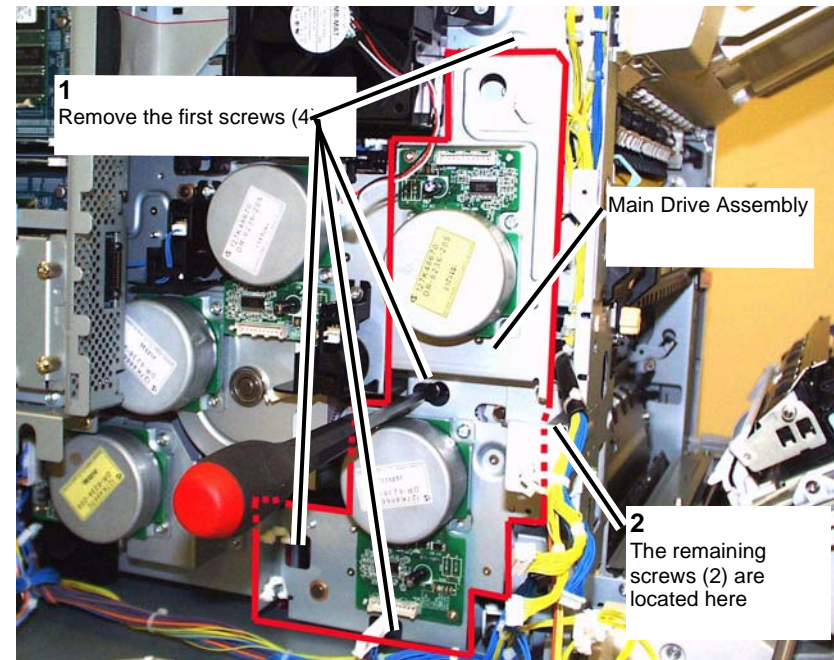
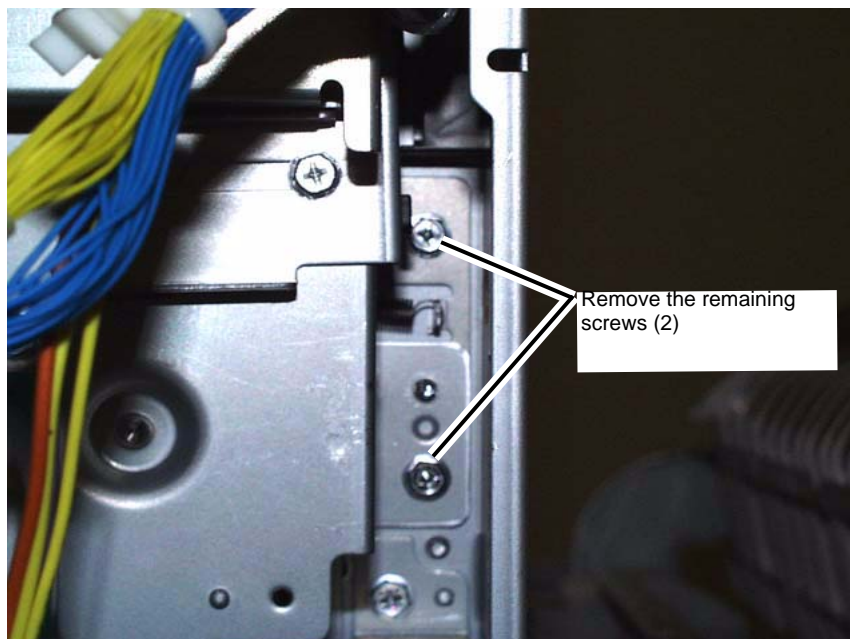

Figure 10 Removing the screws (4) first
Figure 11 Removing the remaining (2) screws
13. Remove the screw (6) from the Main Drive Assembly. (Figure 10, Figure 11)